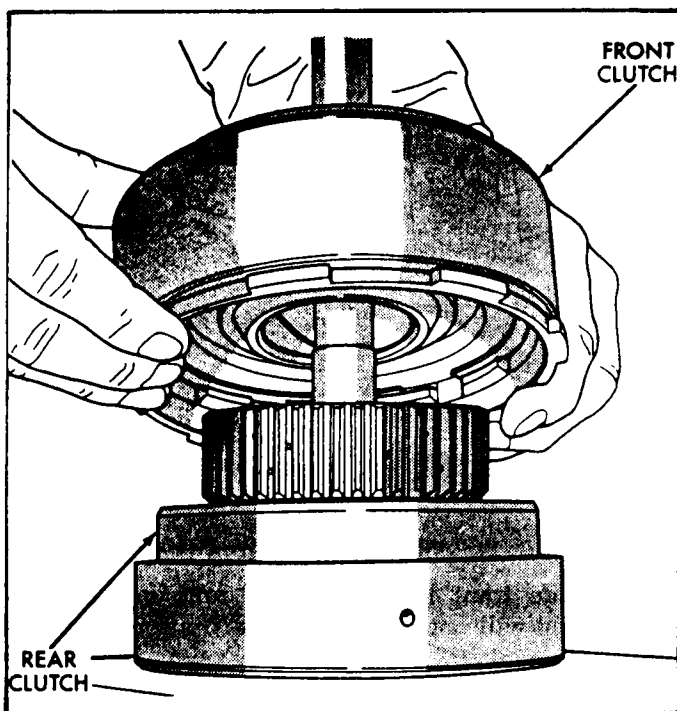

Figure 19
31. Separate front and rear clutch drums, as shown in Figure 19, and set both of the drums aside for overhaul during subassembly.